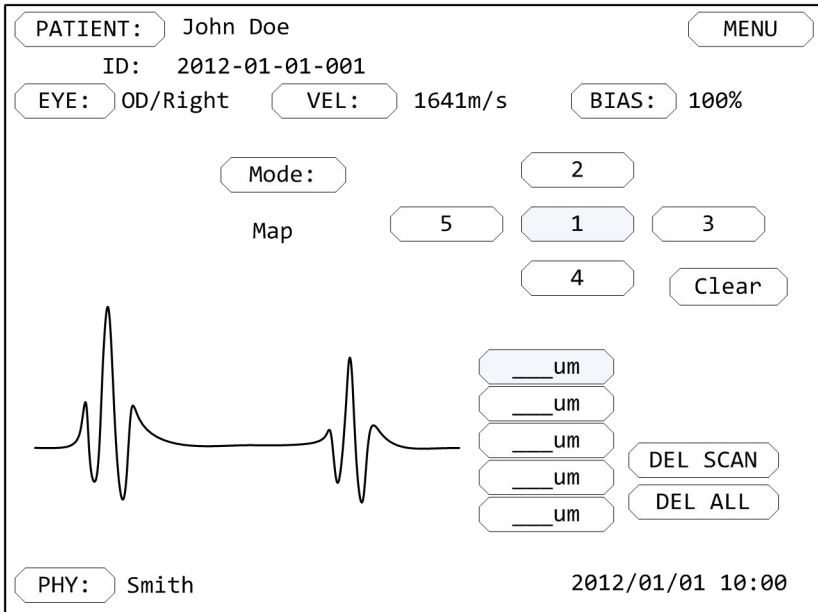

Figure 5-8 Map Mode of Pachymetry
2. **Map Mode.** This mode allows for the user to obtain five readings at five different points along the corneal surface. (Figure 5-8)